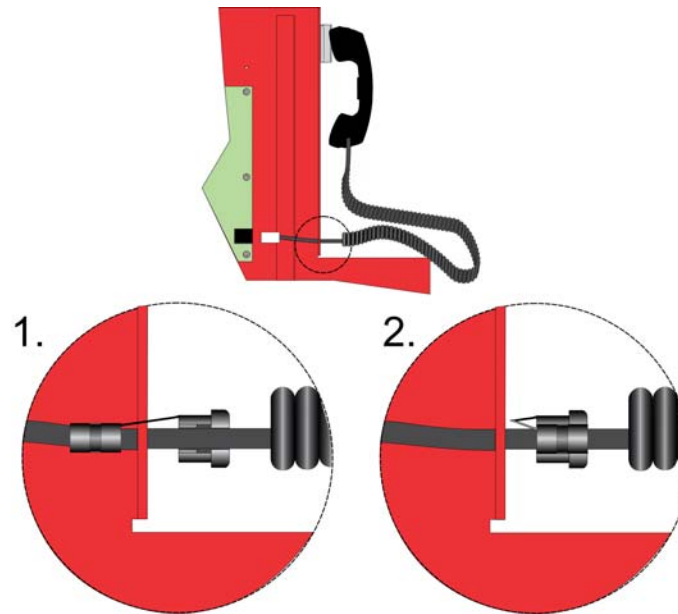

Figure 3.6 Strain Relief Clip Installation
2. Attach the strain relief clip to the phone cord. The strain relief clip should have about 2 3/4" (6.99cm) length of phone cord through it. See Figure 3.6.